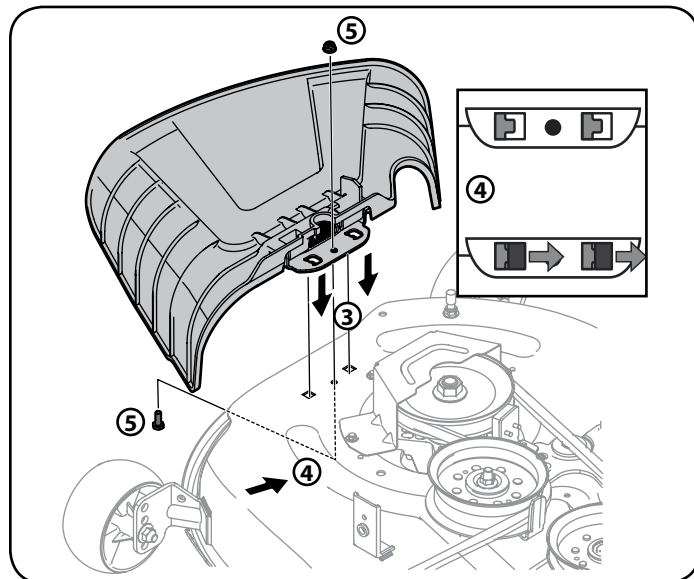

Figure 6
- Place the chute deflector on the deck, be sure to insert the tabs on the chute deflector into the holes on the deck. See Figure 6.
- When the tabs are installed in the deck, slide the chute deflector toward the rear of the riding mower until the bolt hole in the chute deflector aligns with the hole in the deck. See Figure 6.
- Secure the chute deflector in place with the flange lock nut and hex screw removed in step 2. Tighten to 102-124 in-lbs. See Figure 6.